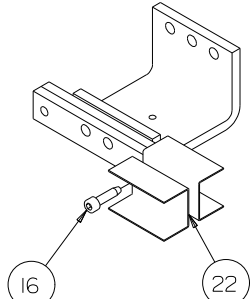

Figure 9
10. Reference fig. 9 - Installing the provision barrier (item 22). In the case of a provision, orient the barriers as shown in fig 9. Insert the 1/4-20 socket-head cap-screw through the 0.228 hole in the barrier and through the 0.228 hole in the B-phase link and tighten. Repeat this step if there is another provision.